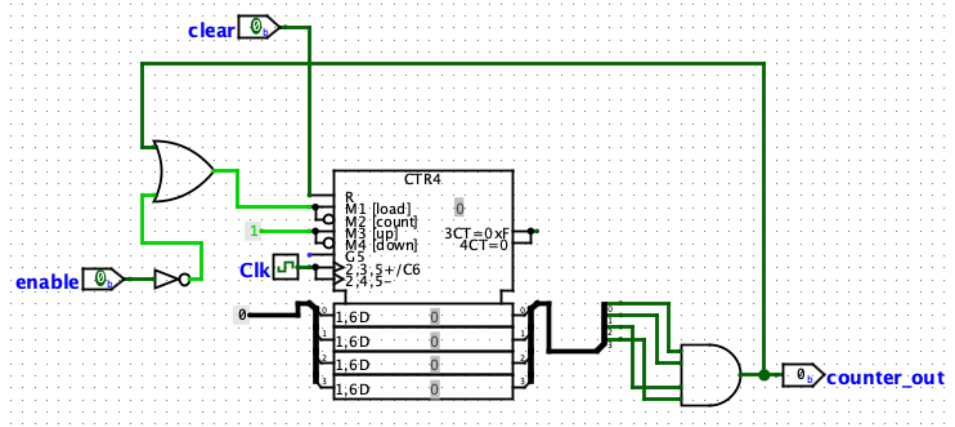

Figure 2: Counter in Logisim
Figure 2 shows an example of a counter in Logisim that counts in hexadecimal from 0 to F. You can find this counter in *Memory > Counter*.
1. The AND gate on the right side of Figure 2 performs two tasks: it turns on the output *Enable* signal once the counter reaches a certain value and it performs a parallel load of a new counter value (specified by you) on the next clock cycle. This is one way to make the *RateDivider* counts a certain number of clock cycles before turning on the enable signal. Using this idea, changing the frequency of the new clock signal would just involve changing the value you load into the counter.
- This counter design in Figure 2 is provided for you and you can use it as a model to build your counters.